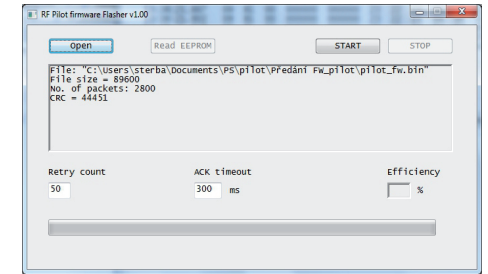

fig. 1c
4. The item „Retry count“ is used for setting the number of repetitions considering the sent packets. The item „ACK timeout“ sets the waiting period for a packet with a reply (fig. 1c). The values are preset for verified values and do not require adjustment!